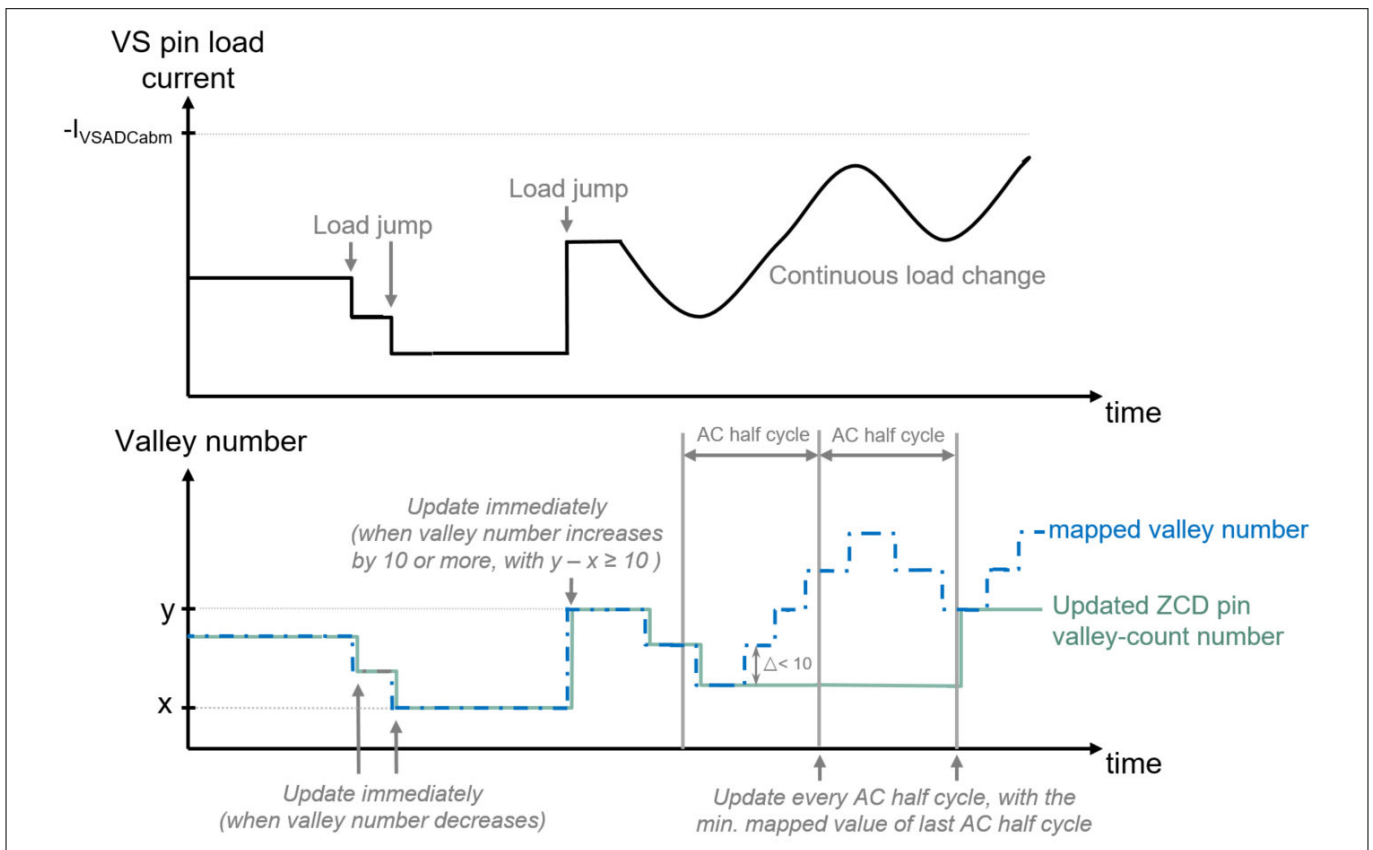

Figure 16 Illustrative example of the QRM valley selection hysteresis mechanism
as shown in Figure 16. During each AC half cycle, the controller adjusts the on-time to stay in the selected valley number. In this way, the number of valley jumps is limited to a minimum.
- When a load jump happens, if the valley number has to be decreased, it happens immediately. For the case of valley number increase, if the load jump results to a valley number increase by 10 or more, it happens immediately. Otherwise, the change happens only at the start of the next AC half cycle, as shown in Figure 16.